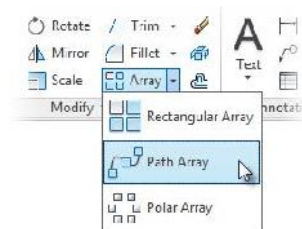

FIGURE 10.23: Starting the Path Array (ARRAYPATH) command from the Ribbon
4. On the Home tab > Modify panel, expand the Array button and select Path Array, as shown in Figure 10.23.